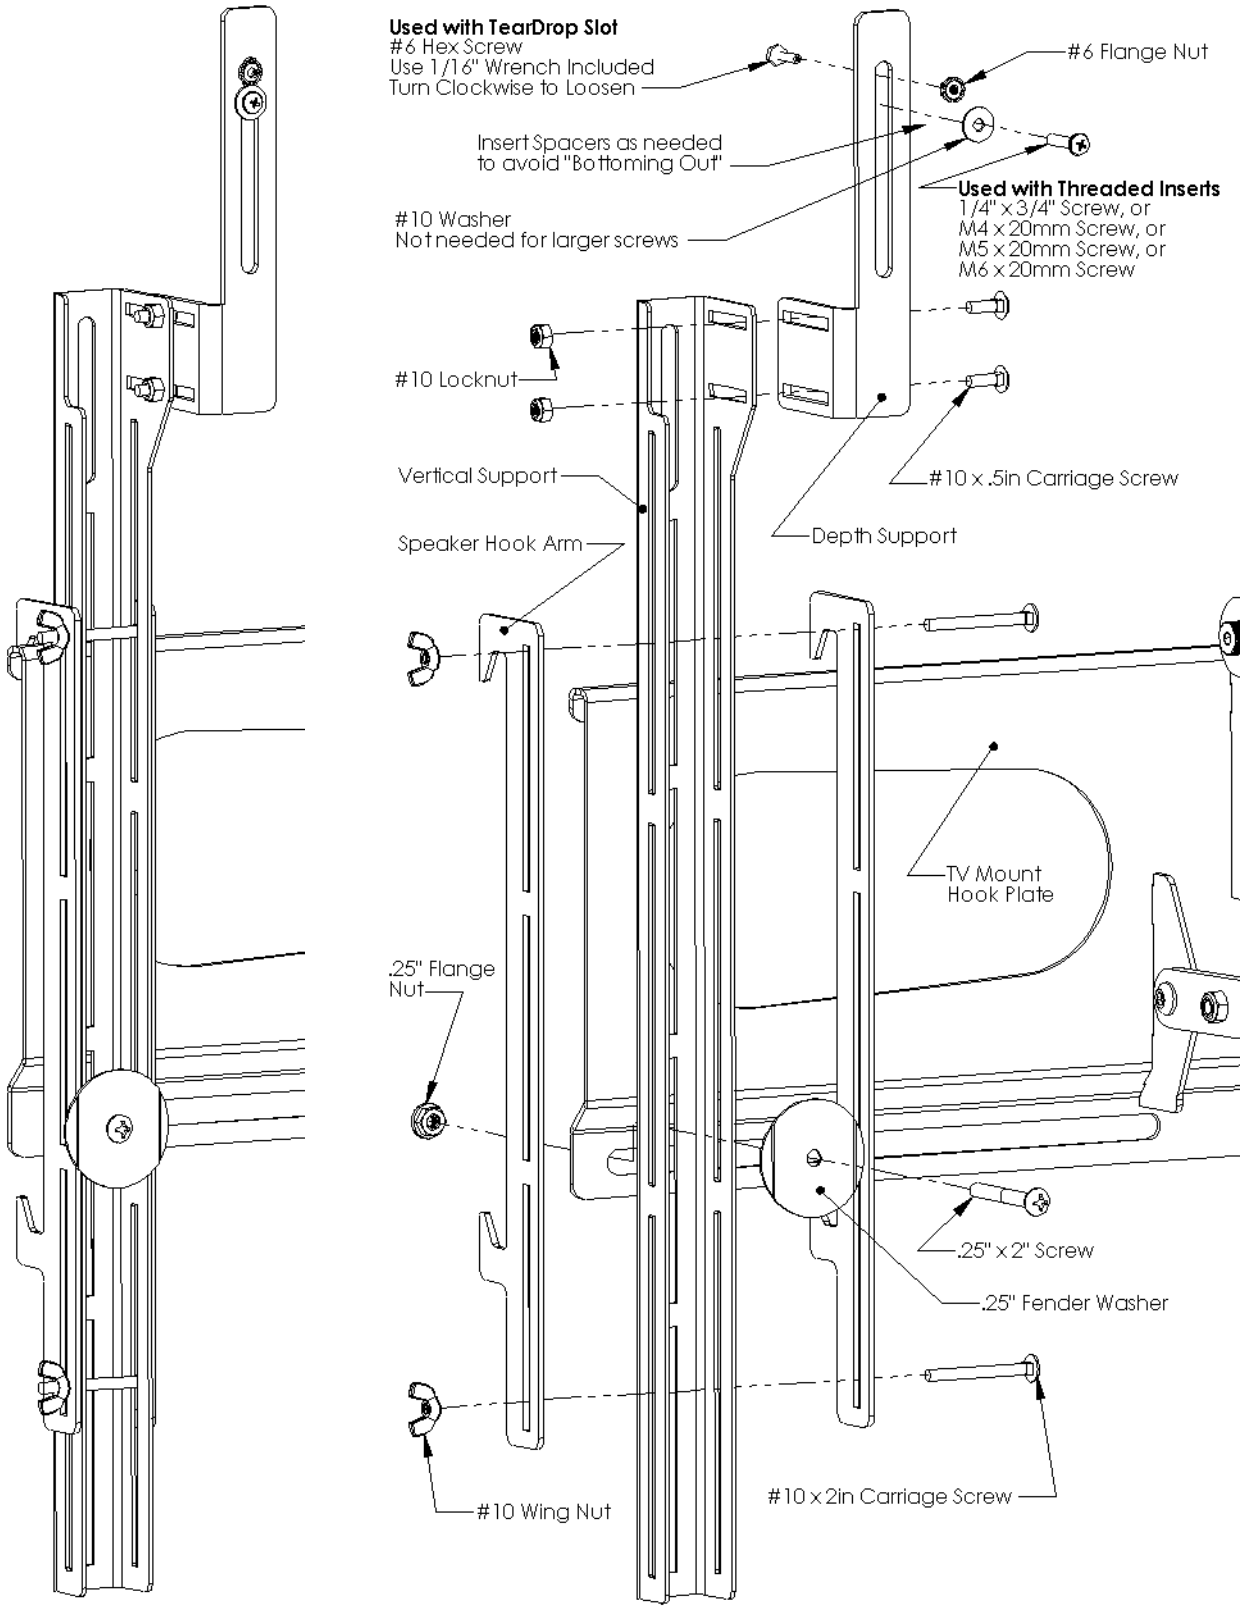

Figure 2 Setup for a Speaker Above the TV
3. See Figure 2 for mounting the speaker above the TV.